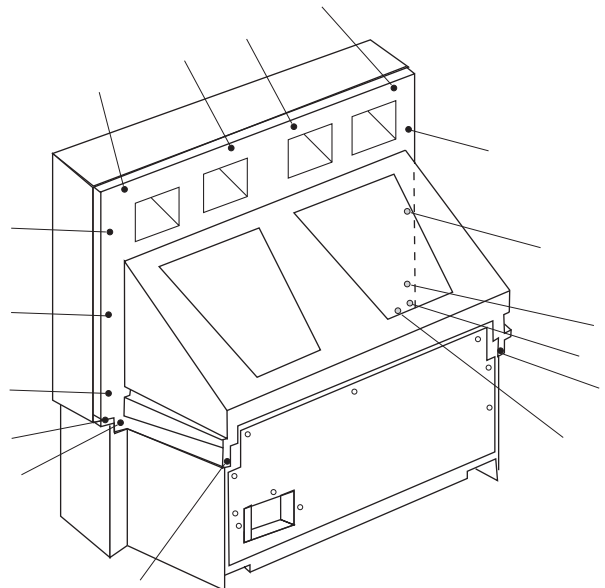

Figure 10. Cabinet Back Cover Removal
Cabinet Back Cover Removal (Figure 10)
2. The top back cover is secured with (16) screws around its perimeter (See Figure 10 for screws location).